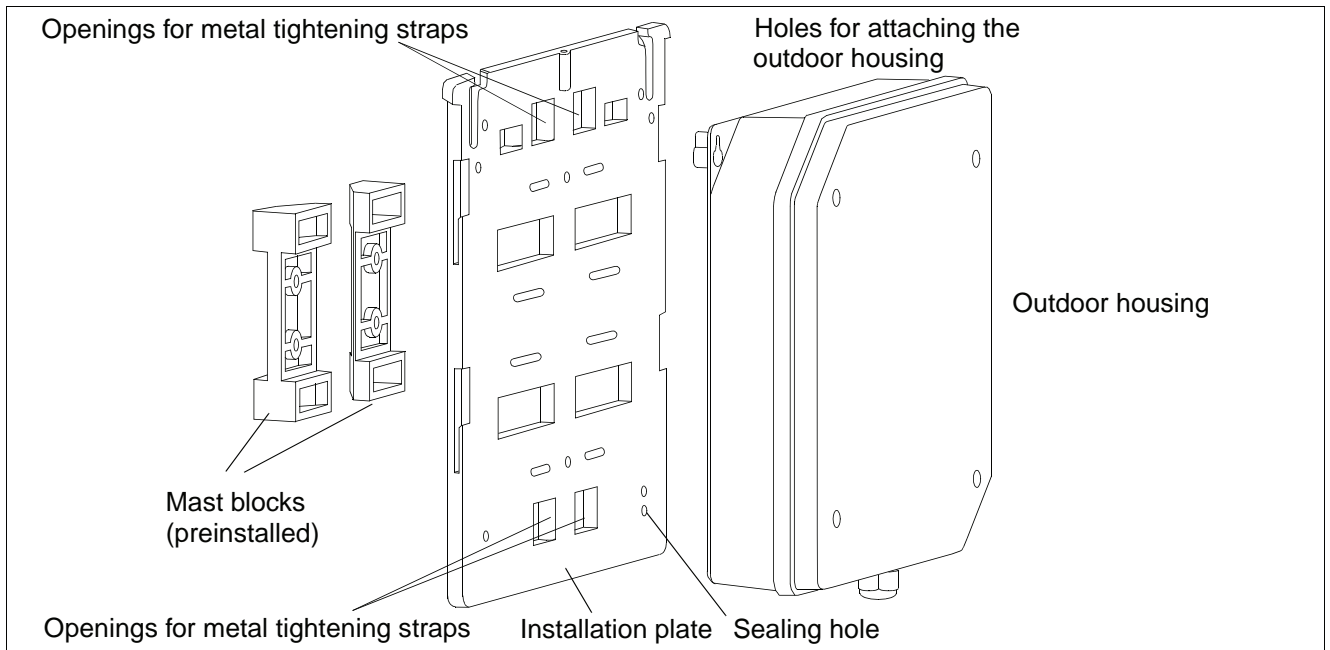

Figure 16 Outdoor housing with mounting plate and mast blocks
3. Feed the metal tightening straps through the specially-provided holes in the installation plate, see Figure 16.
Thread a sealing wire through the lower right fastening hole on the base and the sealing hole on the mounting plate, see Figure 16.
Thread a sealing wire through the lower right fastening hole on the base and the sealing hole on the installation plate and seal it (see Figure 16).